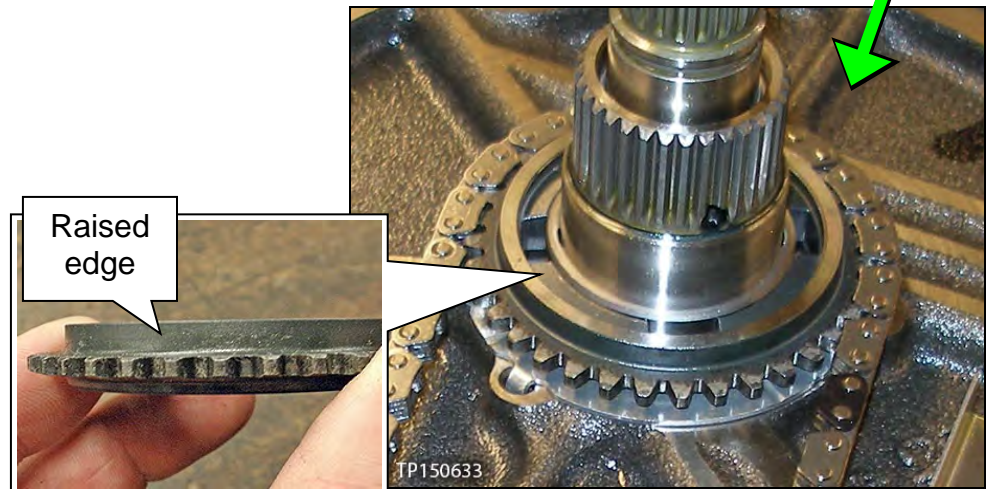

Figure 9I
- Make sure the raised edge (wider edge) on the drive sprocket is facing up (Figure 9I).